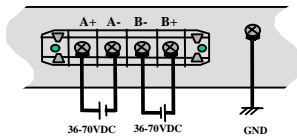

Figure C5.0: -48VDC Dual-Source, wiring connections to the External Terminal Block on a Magnum 48VDC with Dual-Source option
This section describes the proper connection of the -48VDC, 24VDC & 125VDC dual source leads to the -48VDC, 24VDC, & 125VDC power terminal block on the Magnum 3000X (shown in Figure C5.0)
The -48VDC terminal block on the Magnum 3000X, as shown in Fig C5.0 is located on the right rear of the unit and is equipped with five (5) screw-down lead posts. The primary terminals are identified as positive (A+), negative (A-), and the secondary power terminals as negative (B-), positive (B+). The chassis “earth” or ground (GND), is a threaded post with a #6 nut. The dual source terminal block for 24VDC and 125VDC are similar.